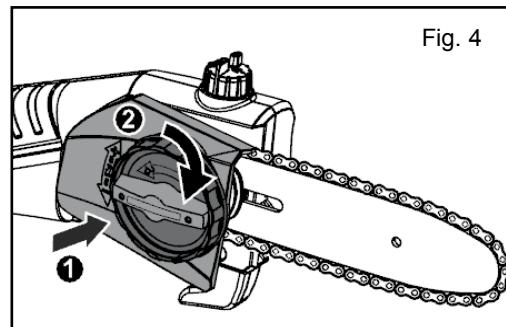

Fig. 4
- Position the cover (Fig. 4 ①) and tighten it with the locking knob (Fig. 4 ②).